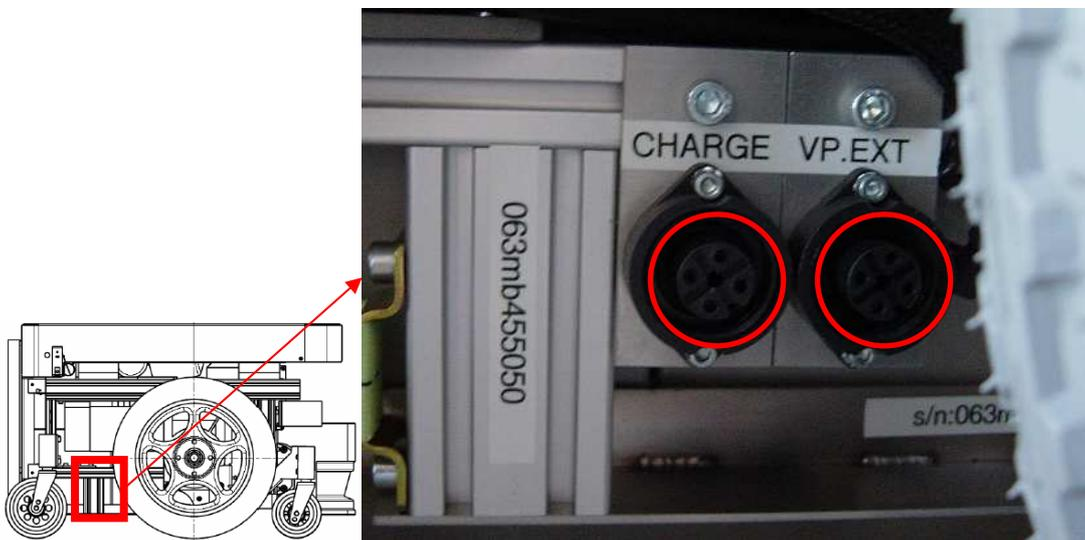

Figure 3: Connector for charging. External 24V power supply.
- 2 - Connect the charger to the plug on the robot (Figure 3).